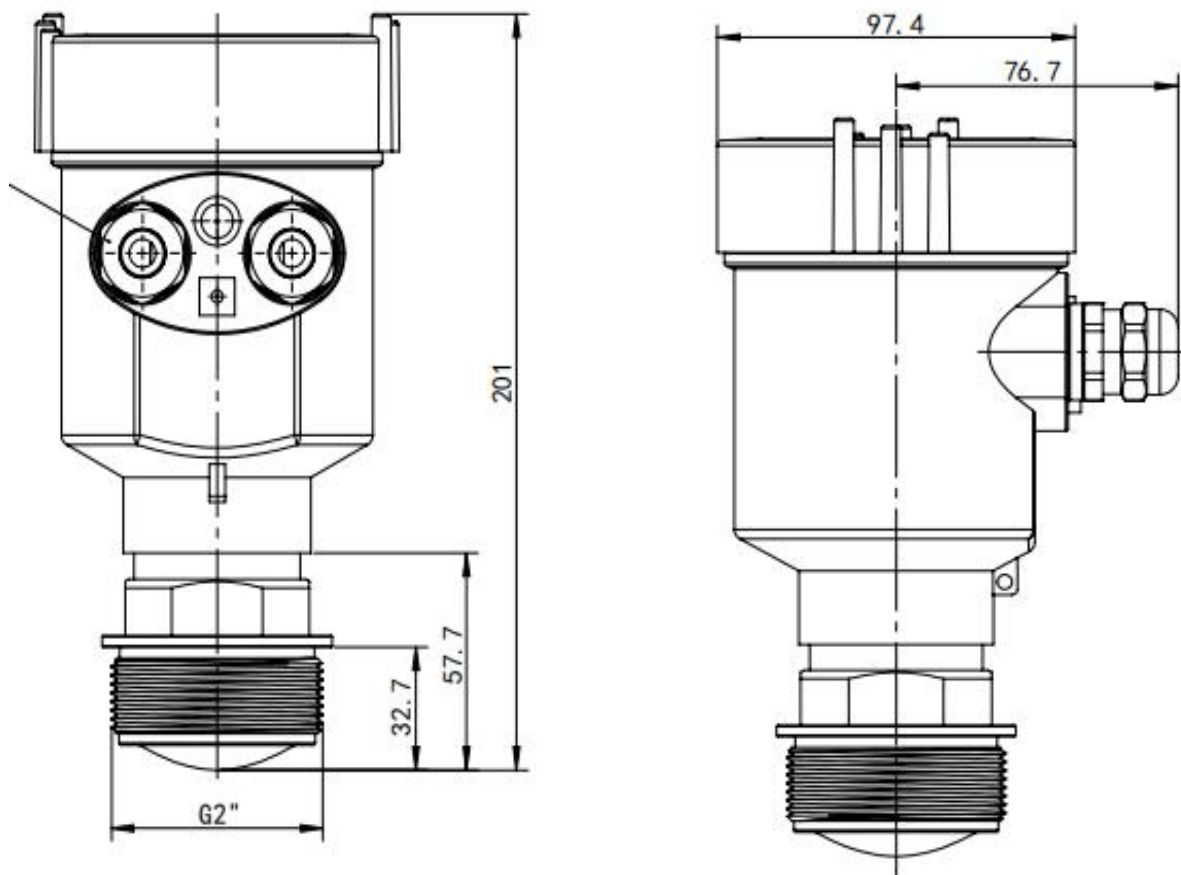

Figure 1 Radar level transmitter shape structure
- Radar level transmitter shape structure figure is shown as in Figure 1.